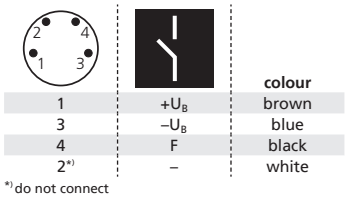

Fig. 1: Pin assignment with view onto sensor plug and colour coding of the microsonic connection cables
- ➔ Connect a connection cable to the M8 device plug, see Fig. 1.